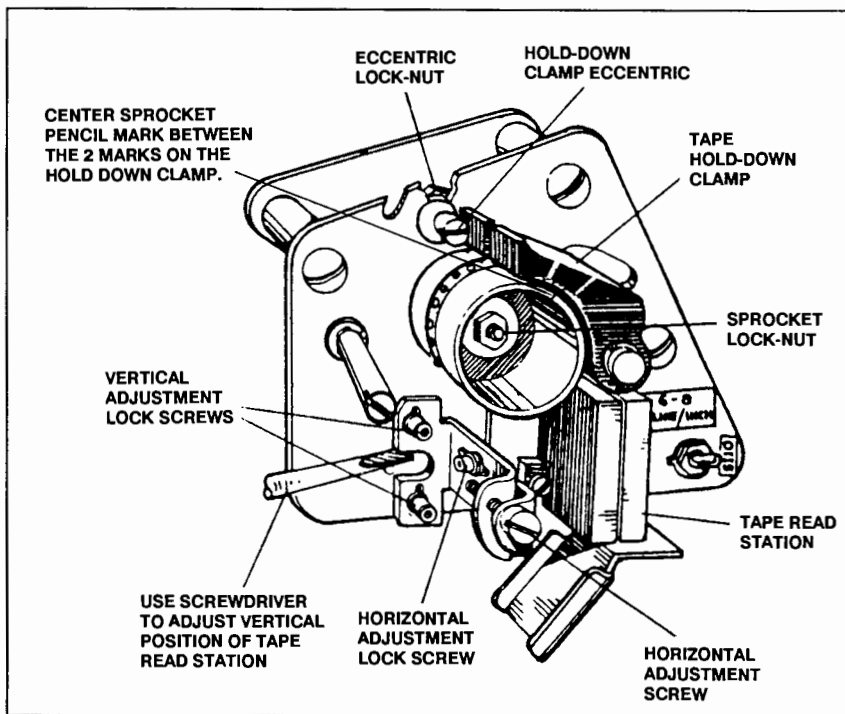

Figure 6-9. Vertical Format Unit Assembly
7. With the RIPPLE/SOLID and SS/PF switches in setting A, rotate the VFU sprocket clockwise until the LEDs just illuminate in the alignment pattern determined in Step 5. Make a pencil mark from the edge of the VFU sprocket to the edge of the Tape Hold Down Flap (see Figure 6-9). Continue rotating the sprocket slowly CW (clockwise) until any one of the alignment pattern LEDs extinguish. Rotate the sprocket back CCW (counter clockwise) until the entire pattern just re-illuminates. Make another pencil mark on the edge of the tape hold down flap opposite the mark on the sprocket. Center the sprocket mark between the two marks on the Tape Hold Down Flap and securely tighten the large socket-head screw. DO NOT allow the sprocket to move or the PF Motor to step while tightening. If so, redo procedure starting at step 4.
5. Rotate the VFU sprocket CW (clockwise) until the LEDs just illuminate in the alignment pattern determined in Step d. Make a pencil mark from the edge of the VFU sprocket to the edge of the Tape Hold Down Flap (see Figure 6-9). Continue rotating the sprocket slowly CW (clockwise) until any one of the alignment pattern LEDs extinguish. Rotate the sprocket back CCW (counter clockwise) until the entire pattern just re-illuminates. Make another pencil mark on the edge of the tape hold down flap opposite the mark on the sprocket. Center the sprocket mark between the two marks on the Tape Hold Down Flap and securely tighten the large socket-head screw. DO NOT allow the sprocket to move or the PF Motor to step while tightening. If so, redo procedure starting at step 3.